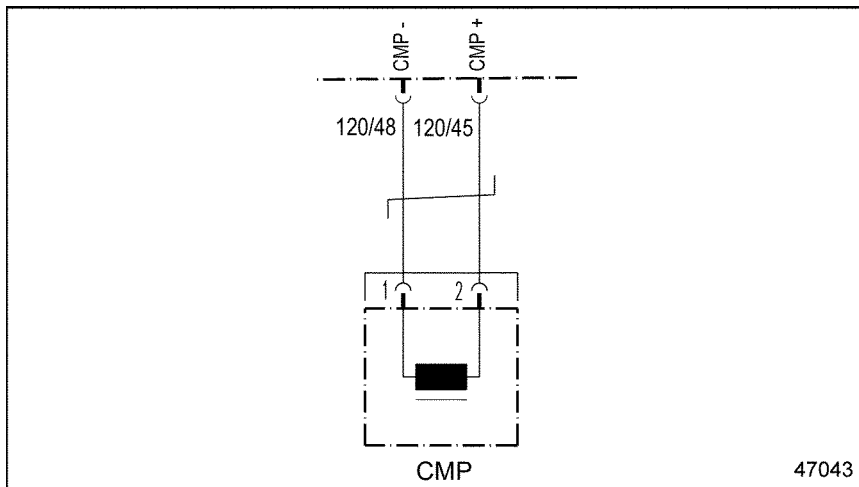

Figure 2 MCM — Camshaft Position Sensor Schematic
2. Measure the resistance between pin 1 of the CMP Sensor and ground. See Figure 2.